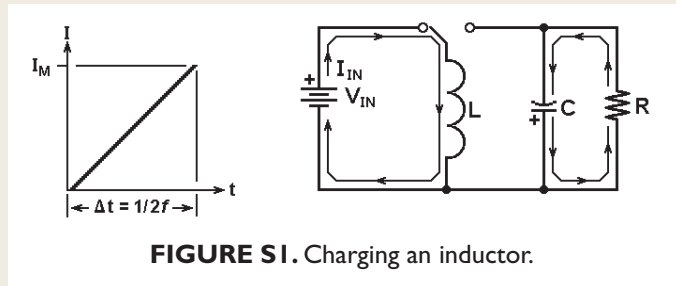

FIGURE S1. Charging an inductor.
Like capacitors, inductors can be charged up. **Figure S1** shows a DC voltage applied to an inductor via a switch. Current (I_{IN}) will increase according to $I = (V/L) \times \Delta t$ where Δt is the length of time the inductor is charging. At maximum current (I_M), the inductor stores energy (W) given by $W = (L I_M^2) / 2$. The energy is stored in the magnetic field around the inductor.